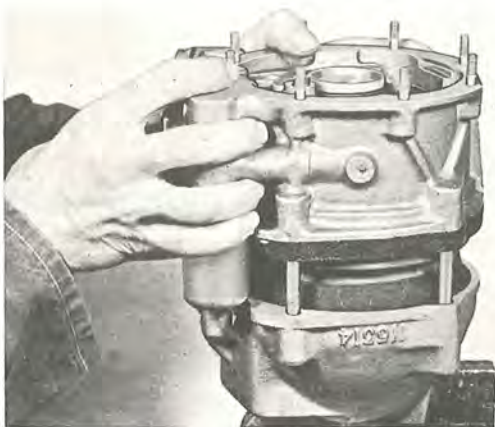

Fig. 4-47. Dismantling the overdrive
3. Unscrew nuts holding the brake ring, front and rear casing. Loosen the nuts successively all round in order to avoid any distortion from the springs. Lift off the front casing and brake ring, see Fig. 4-47.